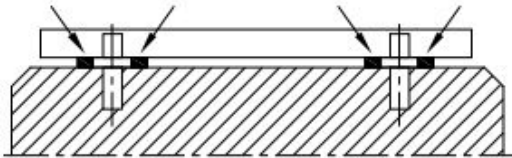

Fig. 2. Foundation, baseplate and fitting the shims
- Place the pumpset on the concrete and by adding or removing shims under the baseplate align the discharge flange horizontally by using a spirit level on it as shown on **Fig.2** Make sure it is completely horizontal.